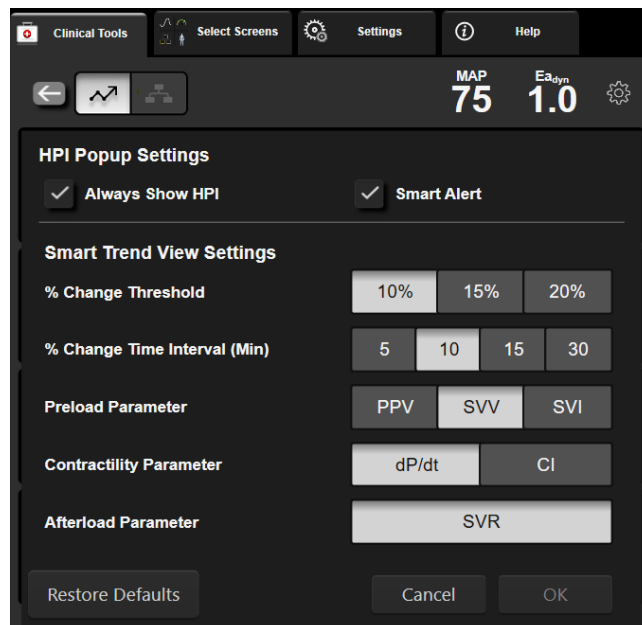

Figure 14-9: HPI secondary screen - smart trend view settings
3. Disable the **Always Display HPI** option button. See Figure 14-9 on page 267.